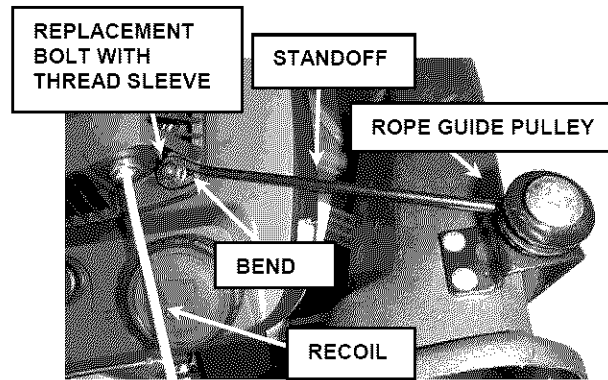

FIGURE 2.13
STEP 4 (Kawasaki only): Attach Bag Adapter Standoff between rope guide pulley assembly and engine recoil. See Figure 2.13.